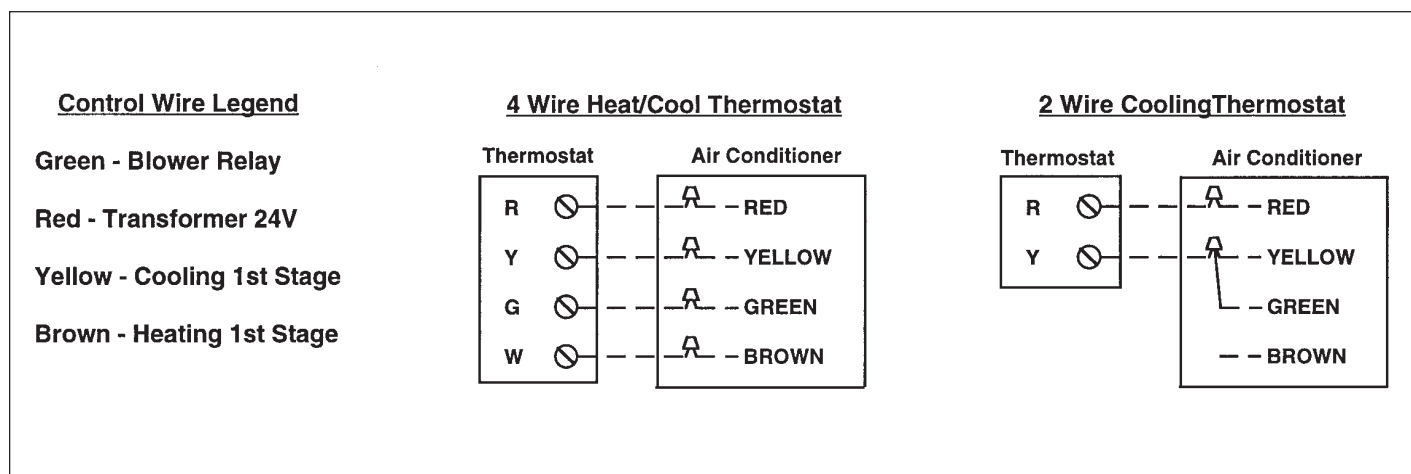

Figure 9. Low Voltage Connections
- Connect the control wires to the leads in the low voltage area. (See Figure 9).